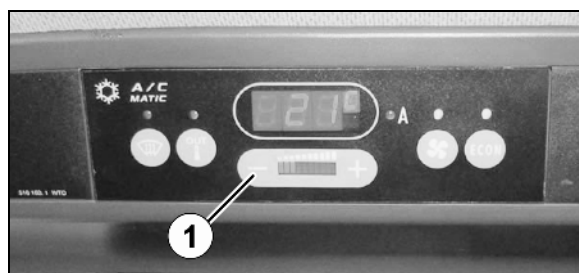

Fig. 168
5. Set the temperature controller (Fig. 168/1) to the lowest temperature.